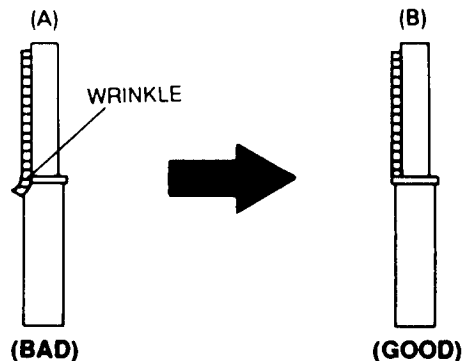

Fig. 6 Tape Guide Check
2. Confirm that there is no curl or wrinkle at the lower flange of the tape guide, as shown in Fig. 6 (B).
3. If a curls or wrinkle of the tape has occurred, slightly turn the screw (C) tilt adjust on the A/C head ass'y clockwise until it disappears, as shown in Fig. 6 (B).